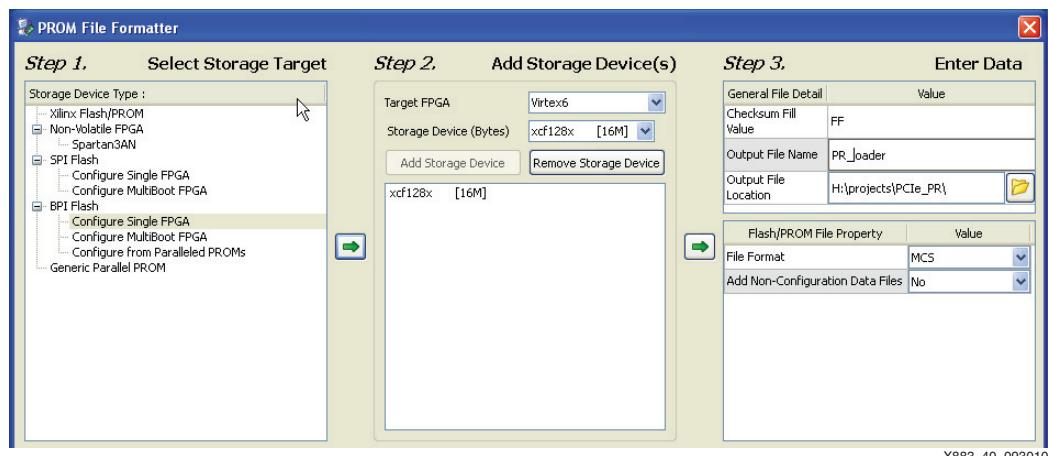

Figure 40: Setting PROM Parameters
11. Specify **PR_Loader** in the Output File Name field and select a directory in the Output File Location field. Leave the default entries in the other fields. The Formatter should look like Figure 40. Click **OK** to proceed.